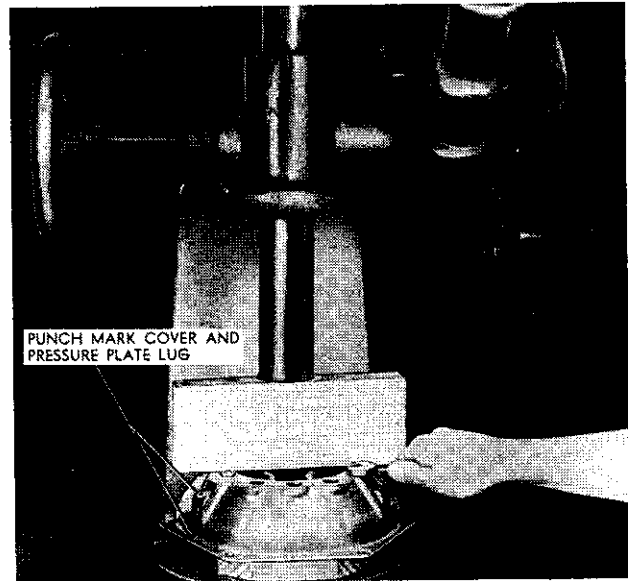

FIG. 66
**CHAMPION AND COMMANDER** Place the pressure plate assembly on the bed of an arbor press and insert a wood block under the pressure plate so that the cover is free to move down. Punch mark the cover and a pressure plate lug, as illustrated in figure 66, before disassembling the unit. Place a wooden block on the spring bosses across the top of the cover and compress the assembly. The adjusting nuts can then be easily removed. Release the press slowly to prevent the springs from flying out. Then remove the pressure plate cover.